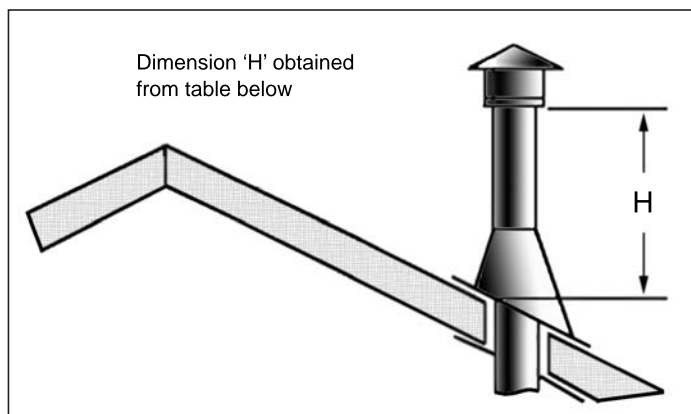
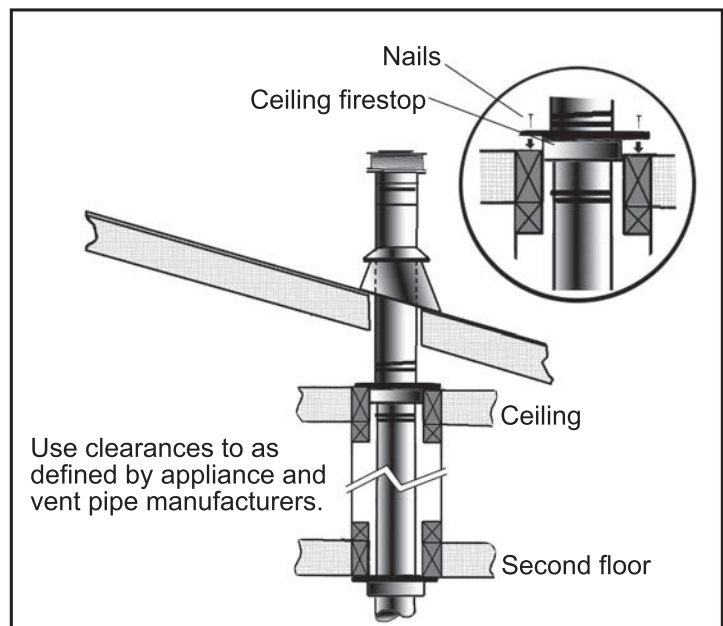

**Figure 45: Vertical Vent Termination**
**Figure 47: Use of Wall Straps.**
- Step 3.** To install the Round Support Box/Wall Thimble in a flat ceiling, cut a **10 " (25.4 cm)** square hole in the ceiling, centered in the hole drilled in Step 2. Frame the hole as shown in Figure 45.
- Step 6.** Once the pipe sections have been joined, and run up through the hole in the roof, slip an elbow strap over the exposed sections, bend the support straps outwards, and push the elbow strap down to the roof level, as shown in Figure 45. Tighten the clamp around the pipe section. Use a level to make sure the pipe is truly vertical. With roofing nails, secure the support straps to the roof. Seal the nails holes heads with non-hardening mastic. Trim the excess length of the support straps that extend out beyond the edge of the flashing.
- Step 9.** Slip the storm collar over the pipe, and push it down to the top of the roof flashing as shown in Figure 45. Use the non-hardening sealant around the joint between the pipe and the storm collar.
- (1) If an offset is necessary in the attic to avoid obstructions, it is important to support the vent pipe every **3' (914 mm)**, to avoid excessive stress on the elbows, and possible separation. Wall straps are available for this purpose (see Figure 47).
- (2) When ever possible, use 45° degree elbows instead of 90° degree elbows. The 45° degree elbow offers less restriction to the flow of flue gases and intake air.
- (3) For multi story installations; a ceiling firestop is required at the second floor, and any subsequent floors (see Figure 48). The opening should be framed to **10" (254 mm) x 10" (254 mm)** inside dimensions, in the same manner as shown in Figure 45.
- (4) Any occupied areas above the first floor, including closets and storage spaces, which the vertical vent passes through, must be enclosed. The enclosure may be framed and sheet-rocked with standard building materials. However consult the appliance manufactures installation instructions for the minimum allowable clearance between the outside of the vent pipe, and the combustible surfaces of the enclosure. Do not fill any required air spaces with insulation.